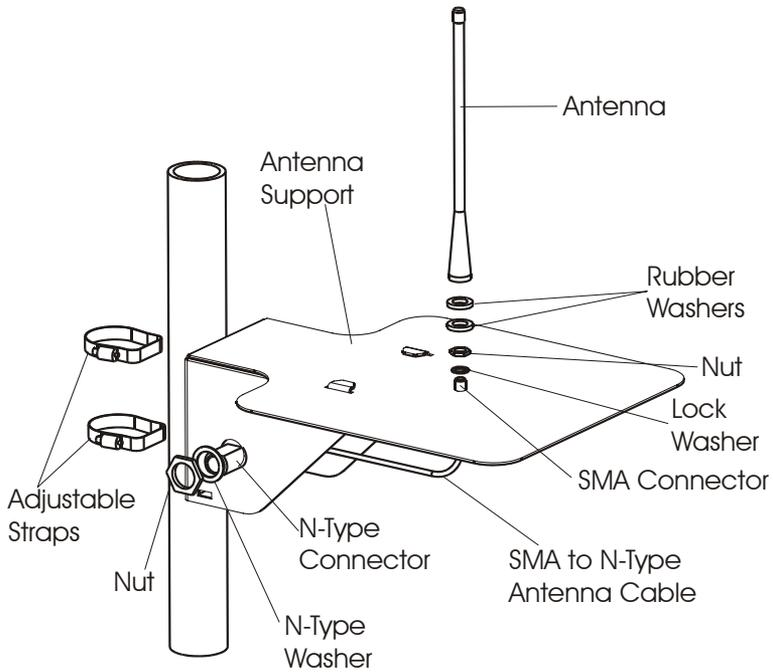

Figure 30
1. Connect a flexible antenna to the antenna support plate using rubber washers, lock washer and a nut (see Figure 30).